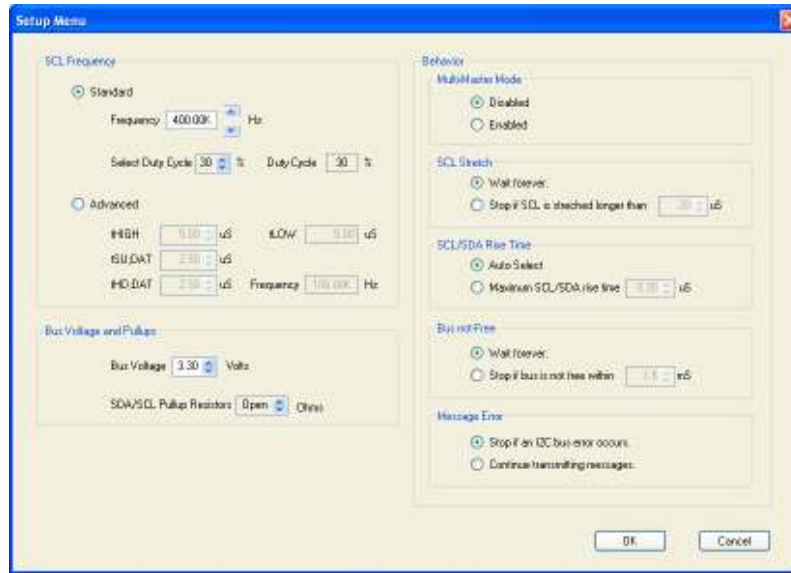

Figure 5. Setup Menu
14. The Setup menu is now displayed (See Figure 5)